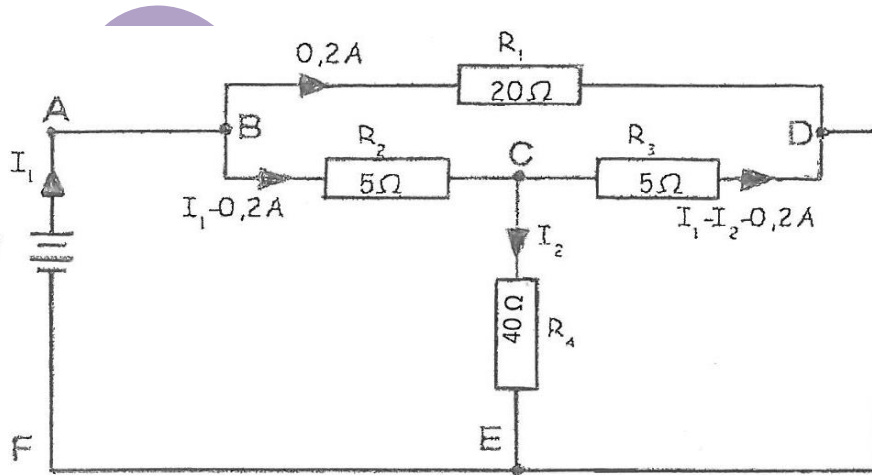

FIGURE 1
2.1 Study FIGURE 1 below and determine, with the aid of Kirchoff's laws: